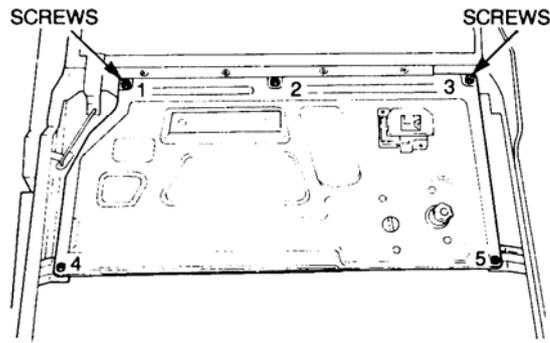

Figure 14 Door Inner Panel Removal
- q. Remove the screws securing the inner panel (refer Figure 14).